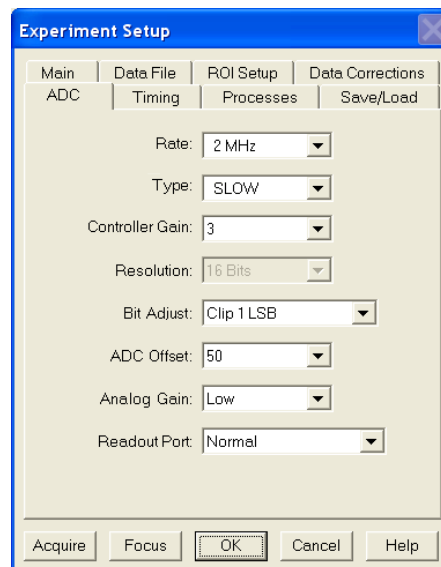

Figure 24. Generic ADC tab
- On the **ADC** tab (Figure 24), set the parameters as they apply to your particular system. Parameters that might be listed follow: